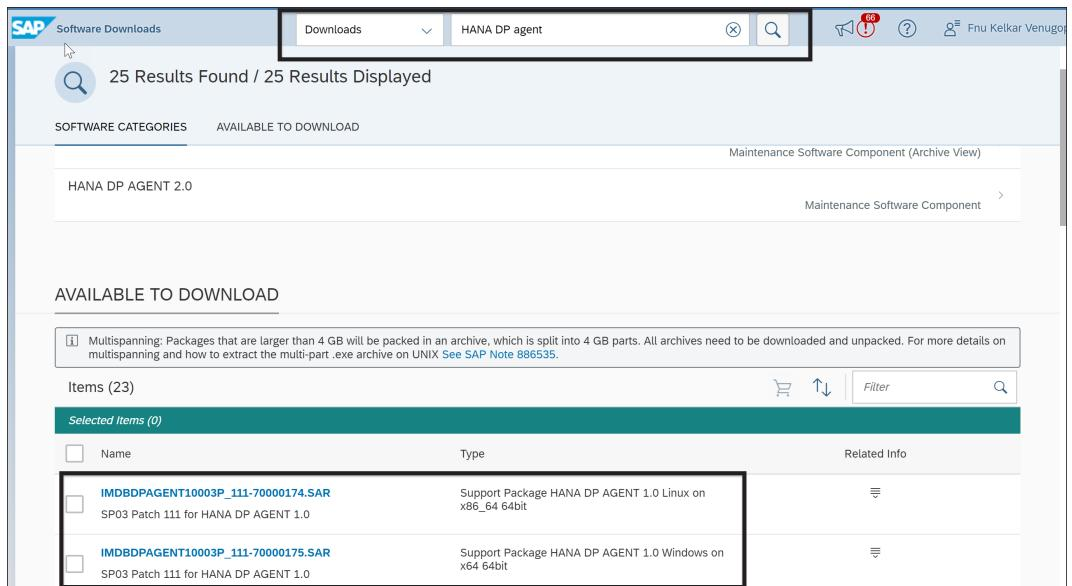

Figure 2.23 Data Provisioning Agent Installation Files
2. Search for “HANA DP Agent”, and download the latest **x86_64bit** or **x64 64bit** .SAR file (see Figure 2.23).